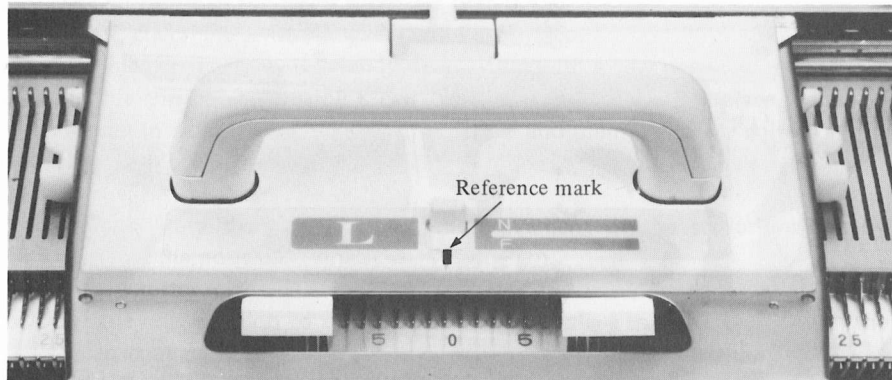

Fig. 46
- 6-6. Check the voltage of the check pin (CH401) by referring to the item 5-5, - 5-9.
- 6-7. Set all the pattern variation switches to the lower position and put the reference mark on the center of the L carriage (Fig. 46).
The mark sensor must be moved while the reference mark of the L carriage moving between the inside of the yellow 1 needle and green 2 needle. (Fig. 46).